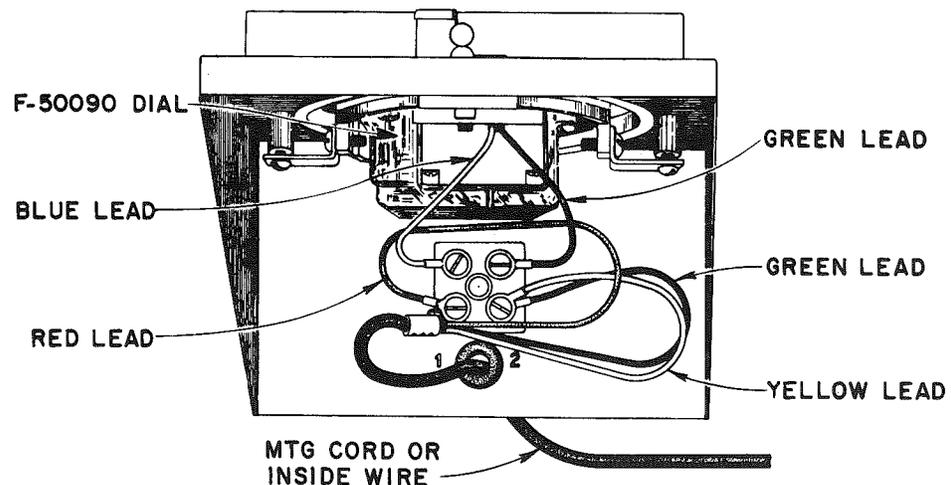
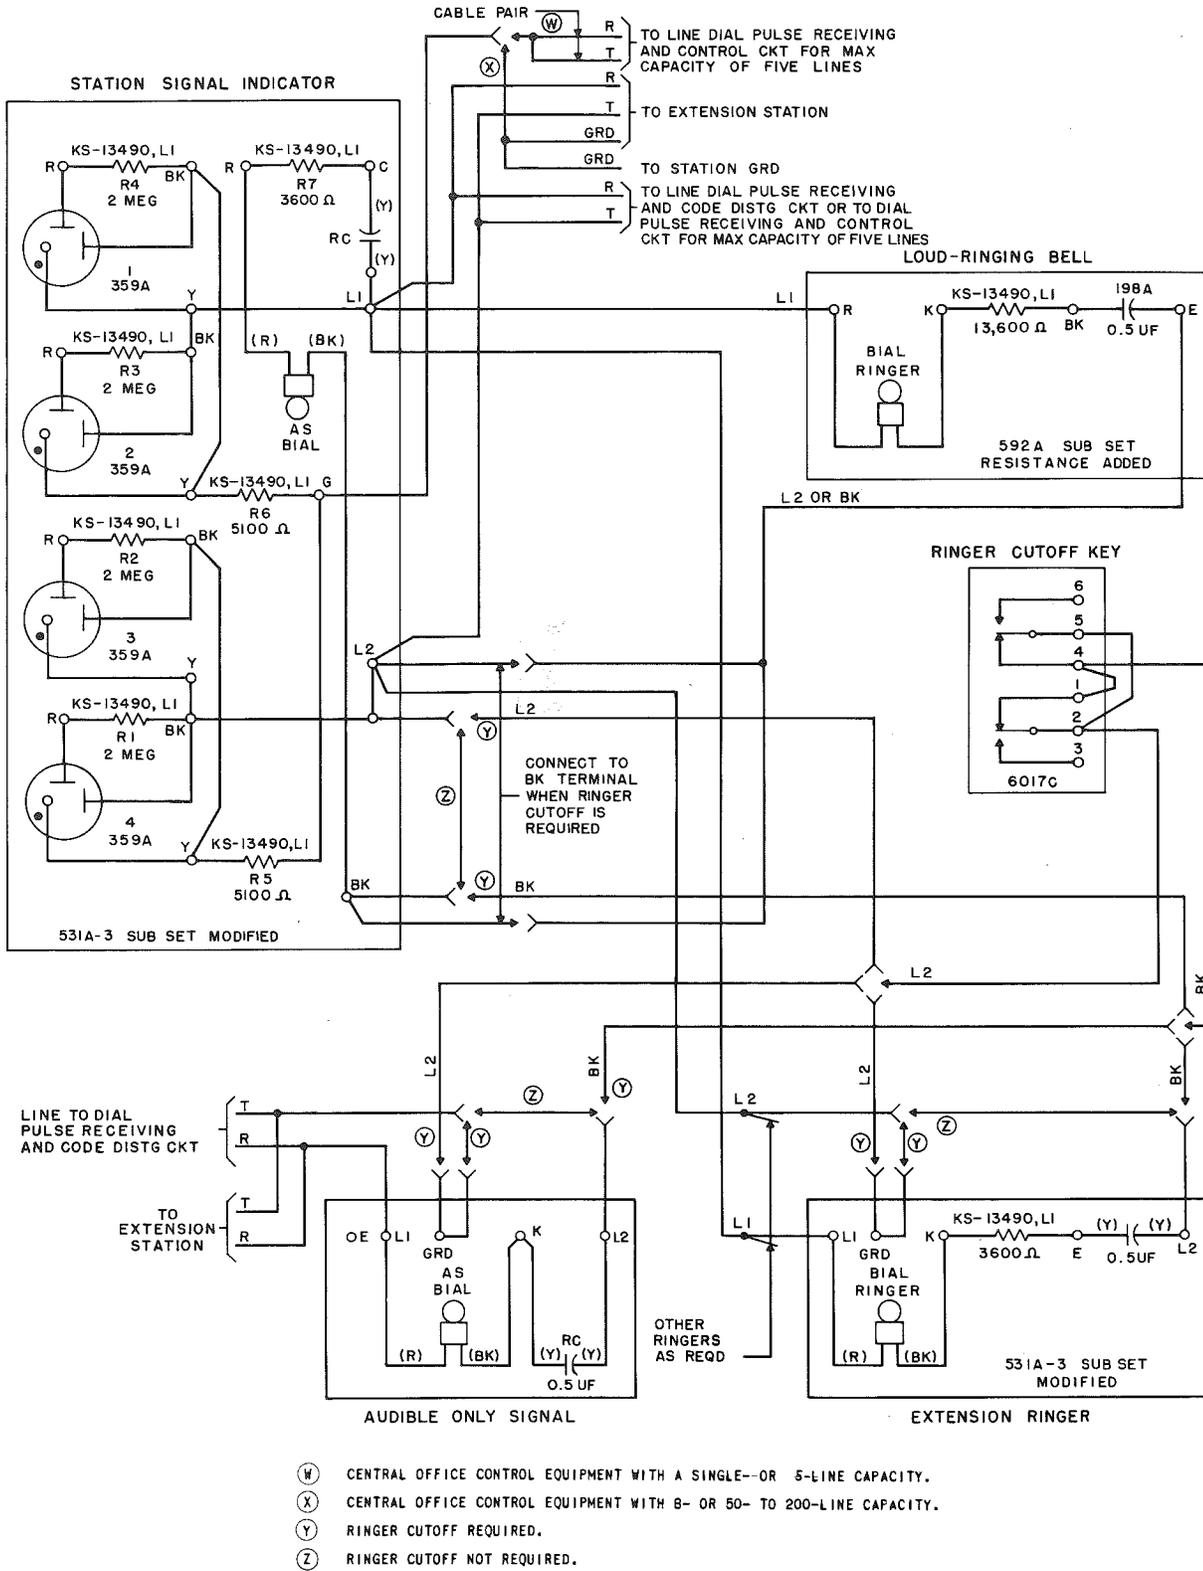

Fig. 1 – Terminating Mounting Cord
Fig. 2 - Civil Air Defense Warning System, Connections
1.02 This section is reissued to delete the D3AY cord from Fig. 1 and to correct Fig. 2.
2.01 Fig. 1 shows the method of terminating any 3-conductor mounting cord in the F-50090 dial. Inside wire replaces the cord on wall mountings.
3.01 Connections for audible and visual signals are shown in Fig. 2.